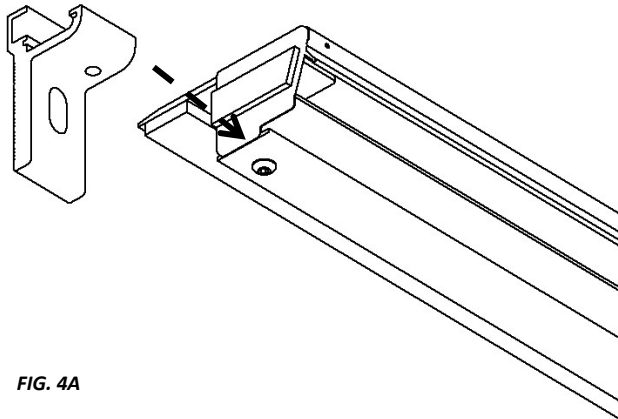
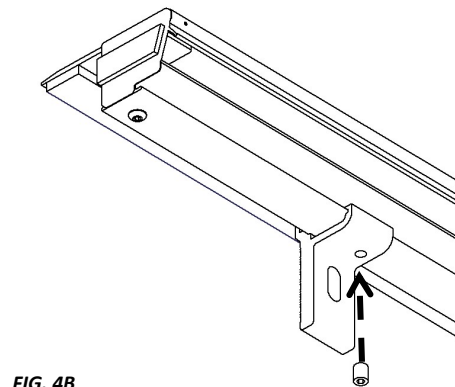
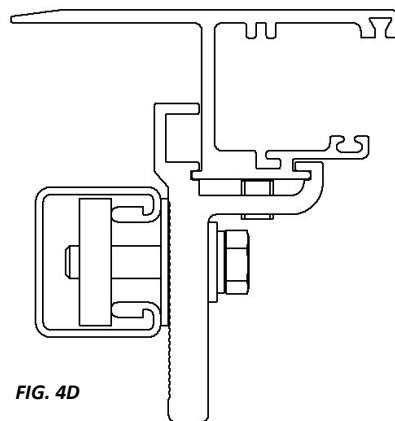

FIG. 4A
FIG. 4B
FIG. 4D
Secure the rails to the truck bed by installing two clamp assemblies per rail. Slide the Clamp Grip onto the Rail at the end of the rail and slide it $\frac{1}{8}$ inches. Next install the set screw to lock the Clamp grip to the rail with a $\frac{1}{8}$ " Allen Wrench (FIG 4B). Assemble the rest of the clamp parts as shown (Fig 4D). Before tightening the rail clamps, set the Rail End Caps about $\frac{1}{16}$ " from the tailgate. This space will allow for overstroke when closing the tailgate.
Finally, check for proper spacing by measuring between the rails at the canister and the tailgate end of the rails (Fig 4A). The measurement should be equal to or less than those in Fig 4B. The Rail Brackets and Shims have been pre-installed to achieve the proper Between the Rail dimensions (BR) when placed on an average factory truck bed. However, not all truck beds are average dimensionally and some have optional plastic caps or over the rail spray-in bedliners